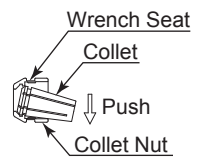
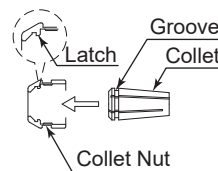
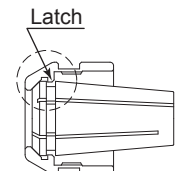

Fig. 6
Fig. 7
Fig. 8
- ② The collet and collet nut are secured by a groove in the collet and a flange in the collet nut. To remove the collet hold the collet nut in one hand and push diagonally down on the collet. The collet should be released. (Fig. 6)
- ③ To install the collet, hold the collet at a slight angle, and insert it into the collet nut. (Fig. 7) Press the collet in the collet nut by positioning the collet in the collet nut and pressing down on flat surface (Fig. 6). Be sure to fully engage the latch inside the collet nut into the groove on the collet outer circumference area. (Fig. 8)